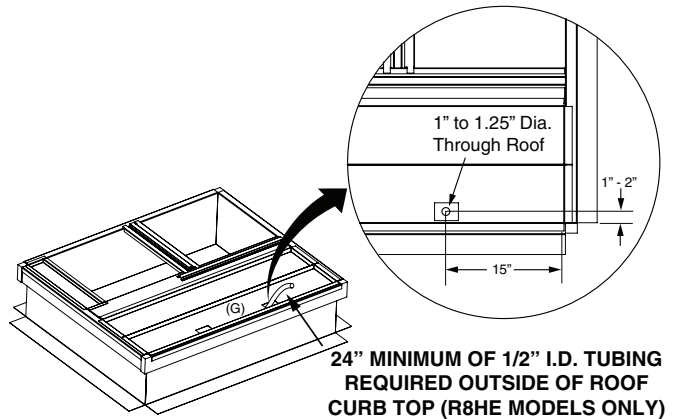

Figure 24. Roof Curb for 2 - 5 Ton Units
- Nordyne Condensate Drain & Vent Kit # 922485 is set up for installing the HX condensate drain line straight down through the roof. It is recommended to drill a 1.00"-1.25" diameter hole through the roof below the rectangular opening located in outer close off curb panel (G) of Nordyne offered curbs, approximately 15" in from the short side of curb and 1"-2" in from the long side of curb. See Figure 24.
- If drilling a hole is not an option, routing the condensate drain hose over to the duct passage opening with enough slope is acceptable as long as drain line is secured to curb and duct, ensuring no kinks or traps can form between the collector box drain or interior of the building. Leave a minimum of 24" drain line extending out the top of roof curb front close off panel (G) for passage through unit bottom and connection to unit drain when unit is being set. See Figure 24. Seal roof penetration as required.